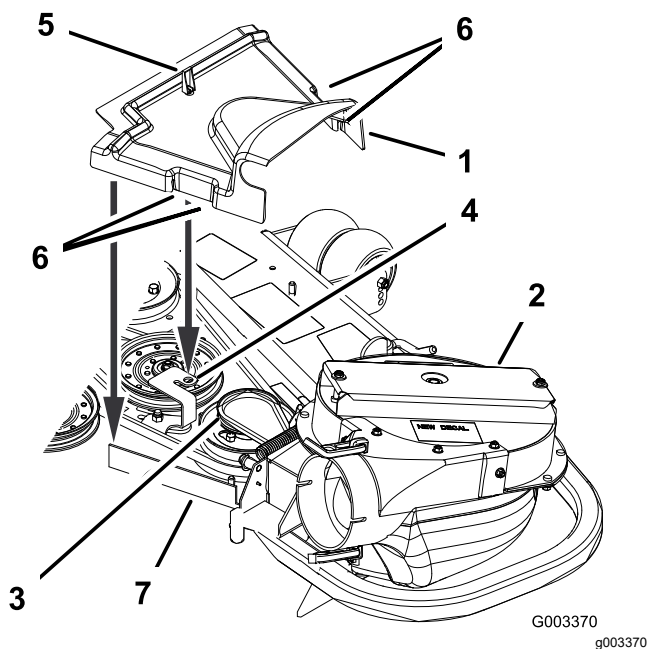

Figure 26
2. Install the new belt cover so that the notches on both sides go over the belt-cover supports and secure the latch (Figure 26).